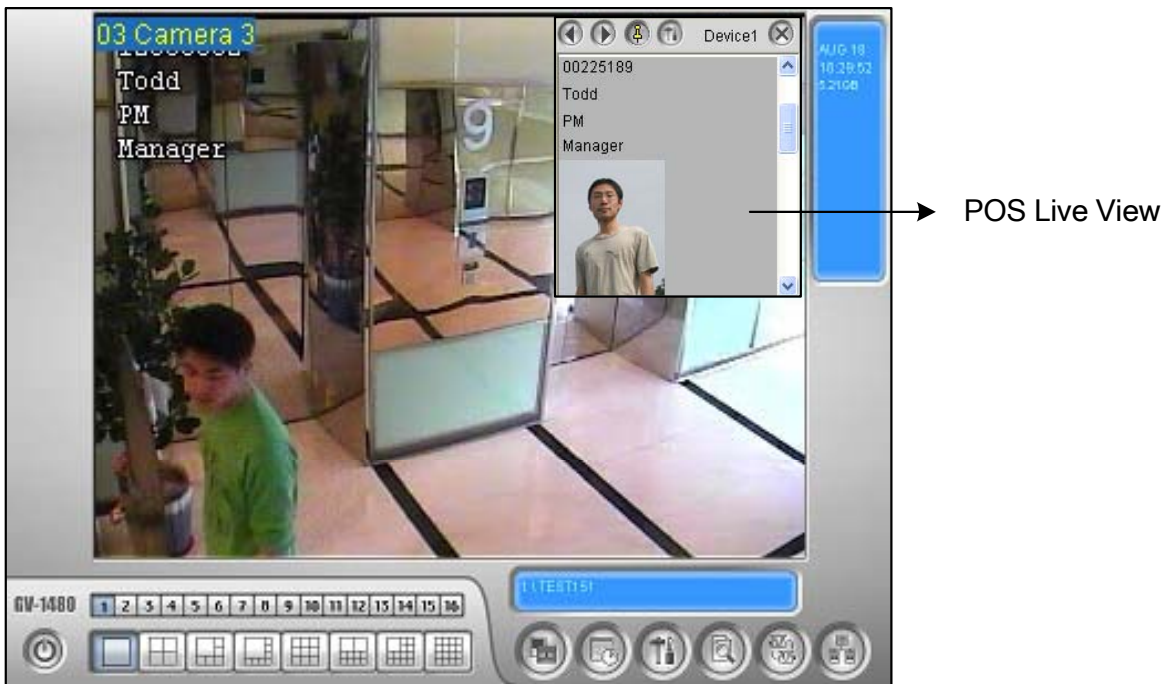

Figure 4-14 Overlaying access data on the POS Live View window
- **Print on POS Live View:** Displays the cardholder's data on the separate POS Live View window (see Figure 4-14).
- **Print on POS Live View:** Displays the photo on the separate POS Live View window (See Figure 4-14).